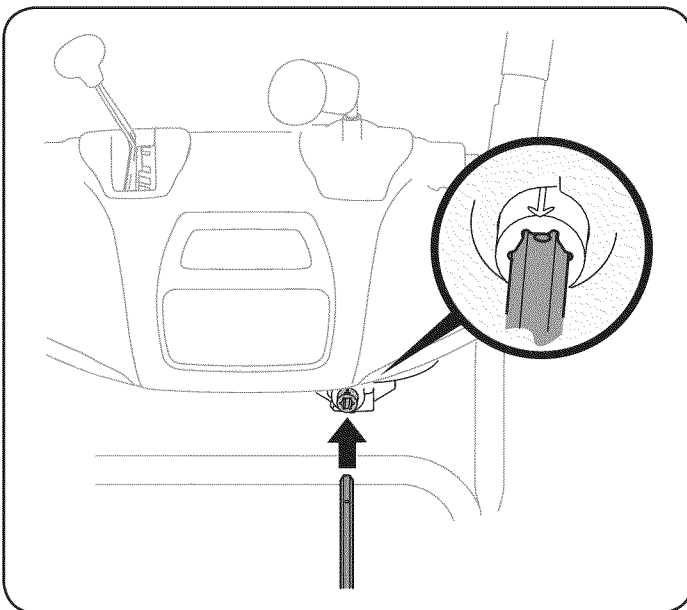

Figure 7
7. Make sure all cables are routed to the left of the chute control rod. Line up the hole in the chute control rod with the arrow on the input shaft and insert the rod into the input shaft below joystick on handle panel. See Figure 7.